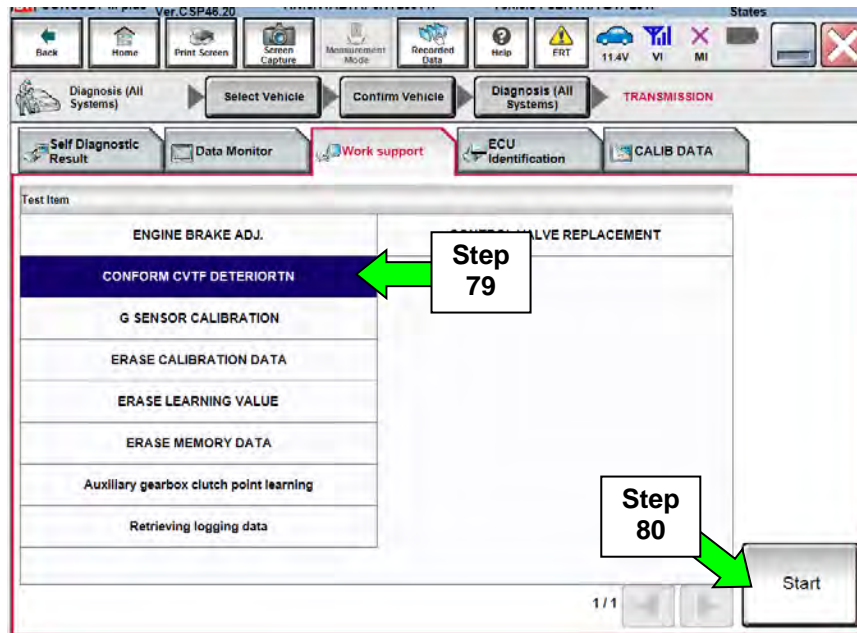

Figure 45
78. Navigate C-III plus to the screen shown in Figure 45.